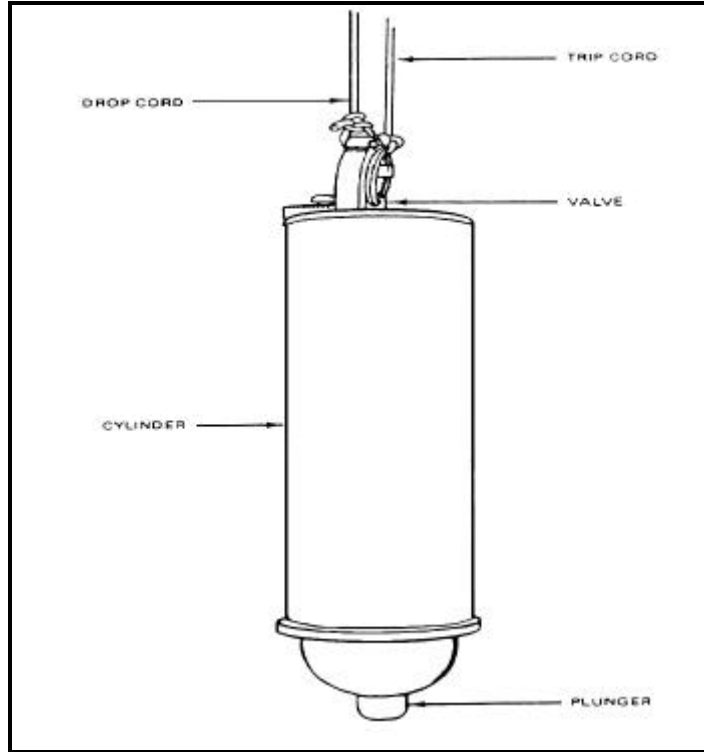

Figure 3-24. Bacon bomb thief sampler
- The Bacon bomb thief may be modified as shown in (Figure 3-24, page 3-27) to speed up operations, save product, and reduce health hazards.